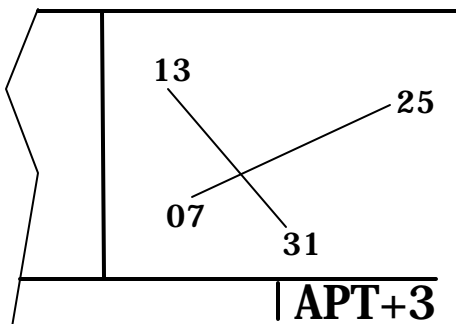

Figure 3D-21. APT 3 Page
(7) The symbol (R) designates that the airport is serviced by an Approach/Departure control facility having radar capability.
c. Airport 3 Page. Refer to Figure 3D-21. The function of the APT 3 page is to display runway information for the selected airport. For many airports the first APT 3 page depicts a North up runway diagram.